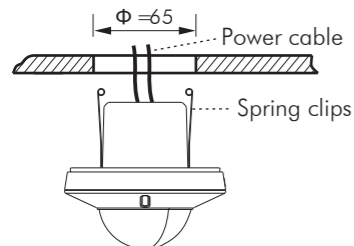

FIG.11
3.4.2.4 Close up detector's two spring clips and insert detector into the drilled hole on ceiling (See FIG.11).